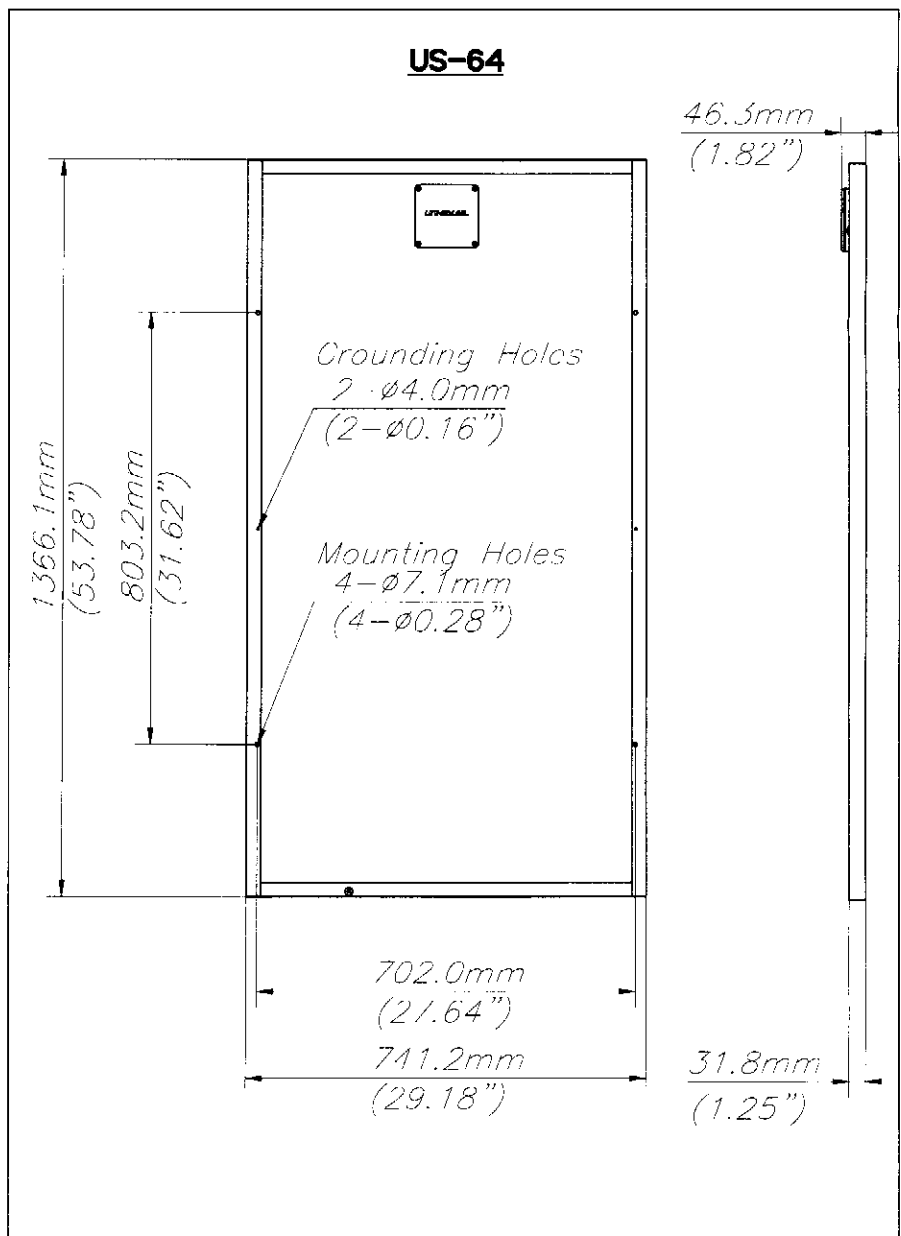

Figure 1
Mounting holes on the aluminum frame of the modules are provided that fit 1/4 inch diameter fasteners (see Figure 1). Mount the modules using at least four (4) fasteners with lockwashers and nuts. Clearance between the module and a mounting surface can be the minimum necessary to prevent wire chafing. When installing modules on a building, use stand off or rack methods. Contact your United Solar distributor for details.
The frame of each module should be connected to earth ground. A self-threading grounding screw and cup washer are provided with each module that can be used to attach a ground wire to the frame using the grounding holes shown in Figure 1. Place a copper grounding wire in between the cup washer and screw head. Module mounting fasteners can be used for grounding purposes, in which case a star lock washer must be used to ensure a good electrical connection to the module frame. Consult the National Electric Code or other recognized standard for grounding requirements.